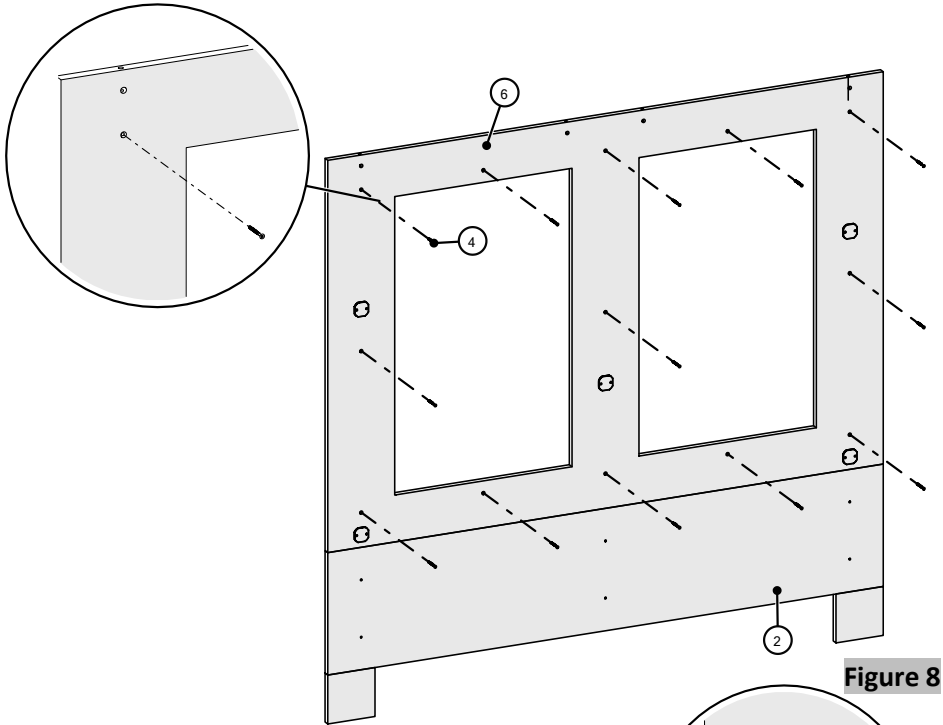

Figure 8
- 11. Secure the Gallery Wall Backer Top using #8 x 2" Flat Head Screws, (Figure 8).